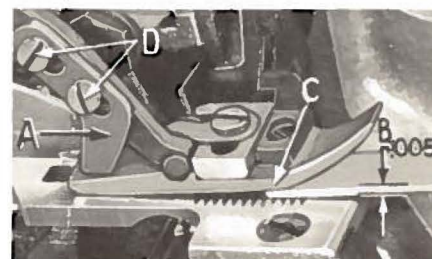

Fig. 17
Styles 39500 FT, FU, GL, GD and GT are equipped with a presser foot hold down plate (A, Fig. 17). The purpose of this plate is to hold down the rear of the presser foot and when set correctly it will help produce a more flat pucker free seam. An approximate setting is shown in Fig. 17. Set the machine with the feed dogs below the throat plate and insert a .005 inch shim (B) under the front portion of presser foot (C). Loosen screws (D) which hold the hold down plate in position and move the plate down until it rests firmly against the presser foot. Tighten the two screws and remove the shim.